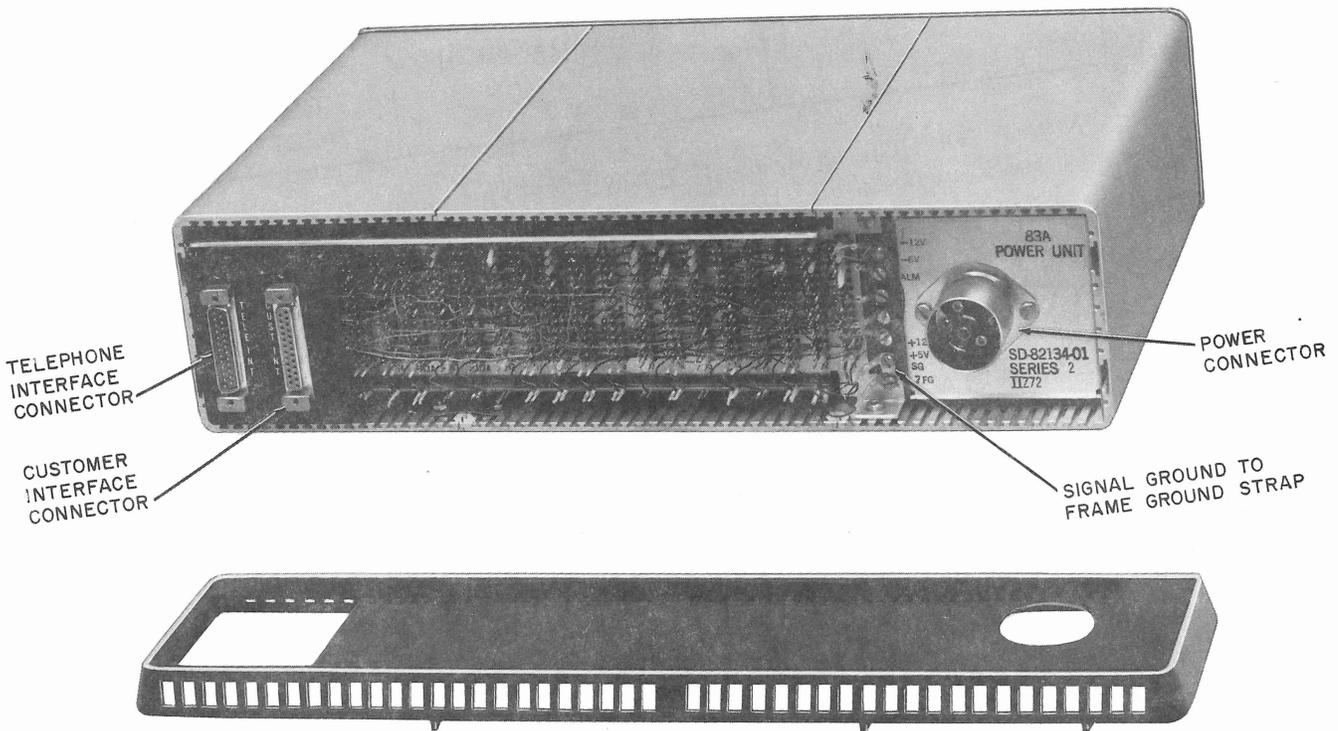

Fig. 5—Data Set 208B-Type—Rear View With Cover Removed
**2.03** DS 208B-type provides two interface connectors and a power cord connector at the rear of the set (Fig. 5). The customer interface connector is a KS-19087-L2 female connector. It requires that the customer interface cord be equipped with a plug such as a DB-19604-432 plug manufactured by Cannon or Cinch. In addition, a DB-51226-1 (or equivalent) hood manufactured by Cinch is recommended to protect the connection, anchor the cable to the plug, provide a finger grip for easy insertion or removal of the plug, and provide a positive screw-in locking arrangement for the plug. The telephone set interface is a KS-19088-L2 male connector. An M13F cord (5-foot 6-inch) is supplied with the data set for connection to the telephone set. The M13F cord can be extended up to 200 feet by use of a separately ordered B25A cable.